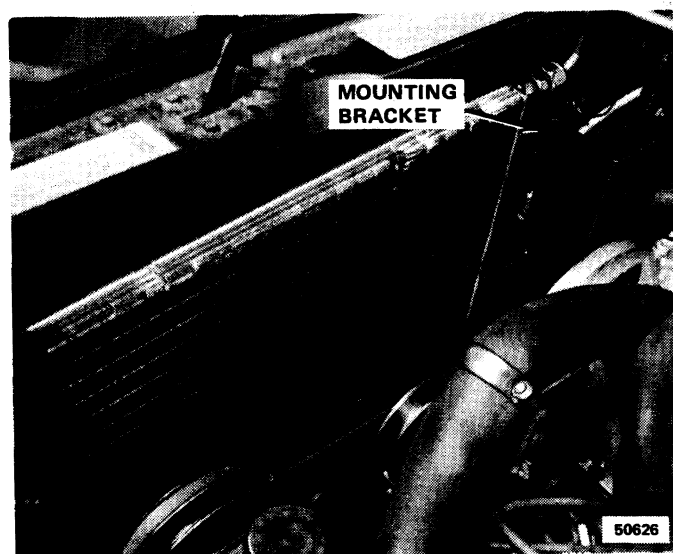

Fig. 127 Condenser Installation—1975 CJ Models
- (1) Install condenser (figs. 127, 128 and 129).